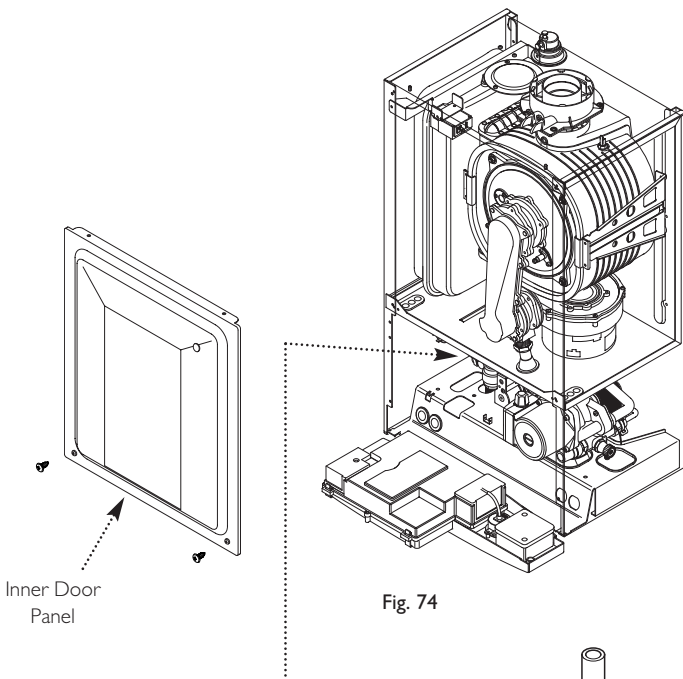

Fig. 74
6. Remove the screws securing the inner door panel. Lift the panel slightly to disengage it from the studs on top of the case (Fig. 74).